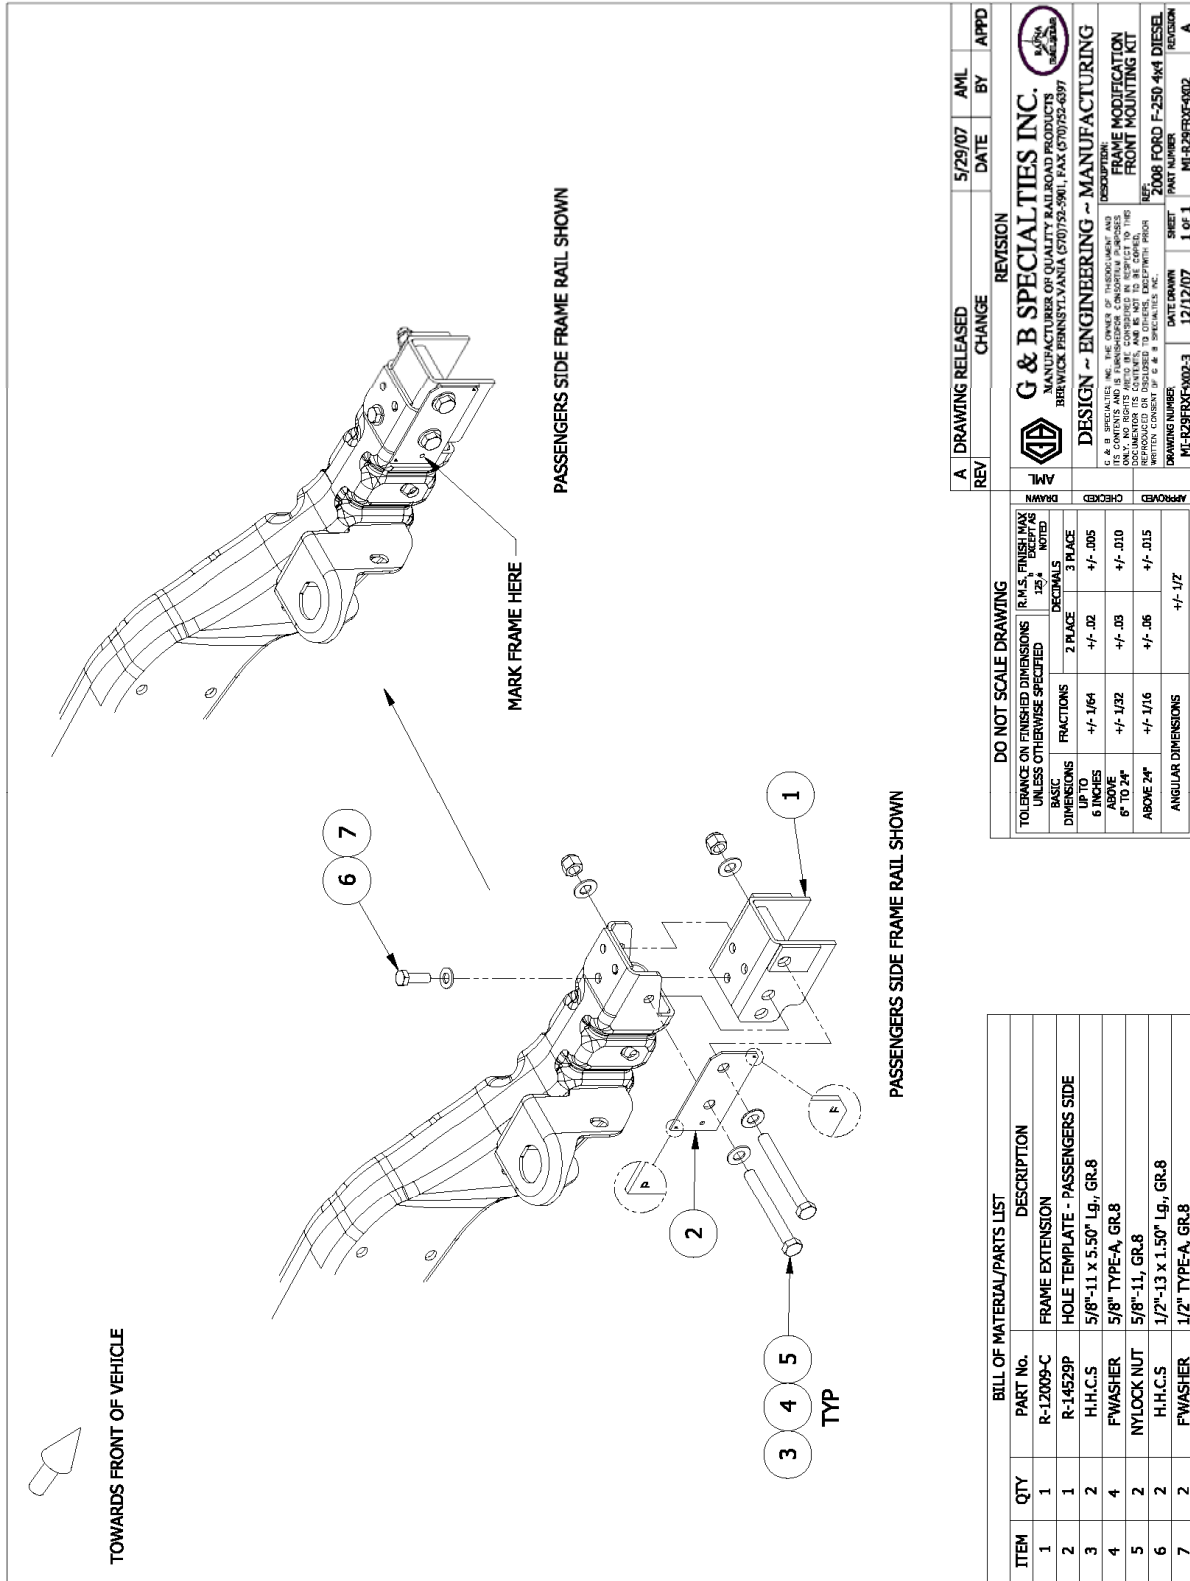

Figure 3
8. On the outside of the passengers side frame rail, bolt the passengers side hole template to the frame extension and truck frame using 5/8" hardware as shown in **Figure 3 or 3A**. The hole template should be level with the top of the frame extension, not the truck frame, and flush with the front of the frame extension. Using a 1/4" center punch, mark the truck frame for the remaining hole using the hole in the template as a guide. Remove the hole template and frame extension from the truck.